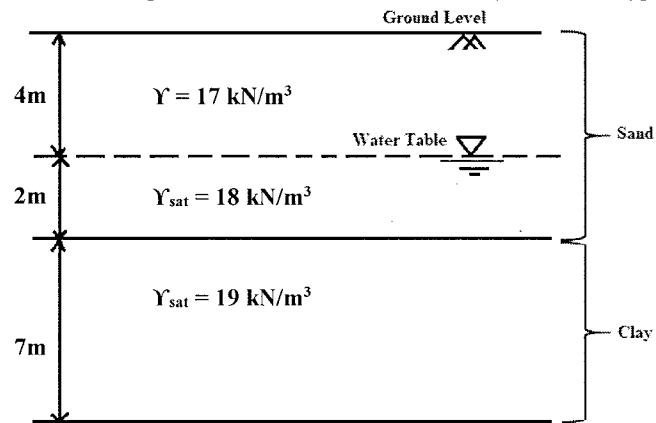

Fig. 1
8. Calculate and plot the total stress, pore water pressure and effective stress diagram for the soil profile shown in Fig. 1. (C.O.NO.2)[Comprehension]